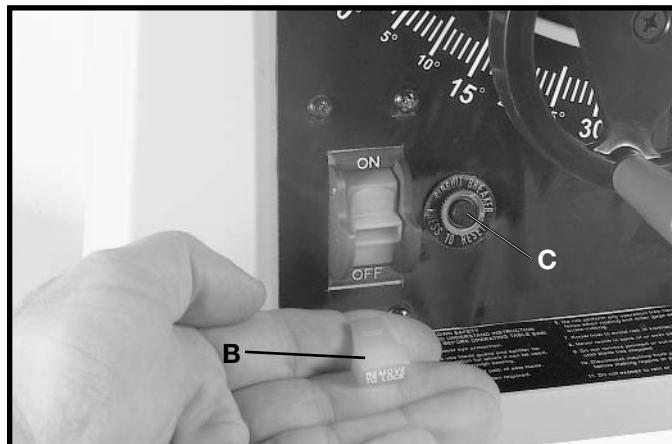

Fig. 32
IMPORTANT: When the tool is not in use, the switch should be locked in the "OFF" position to prevent unauthorized use. This can be done by grasping the switch toggle (B) and pulling it out of the switch as shown in Fig. 32. With the switch toggle (B) removed the switch will not operate. However, should the switch toggle be removed while the saw is running, it can be turned "OFF," but cannot be restarted without inserting the switch toggle (B) back into the switch.
Your saw is equipped with a resetable overload relay button (C) Fig. 32. If the motor shuts off or fails to start due to over-loading (cutting stock too fast, using a dull blade, using the saw beyond its capacity, etc.) or low voltage, turn the switch to the "OFF" position. Let the motor cool three to five minutes and push the reset button (C), which will reset the overload device. The motor can then be turned on again in the usual manner.